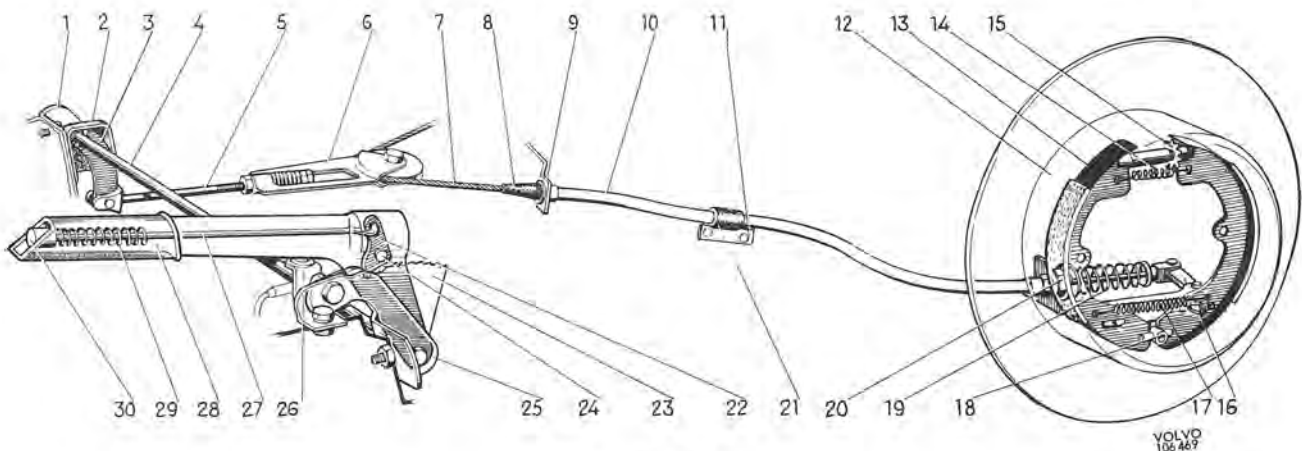

Fig. 5-76. Parking brake
The construction of the parking brake is shown in Fig. 5-76. The parking brake lever is mounted on the floor on the outside of the driving seat. The movement of the lever is transmitted via the shaft (4), lever and pull rod (5) to the pulley (6). From here the movement is transmitted through the cable (7) to the rear wheel brake units. At each rear wheel, the movements of the cable influence the lever (16), which is carried in a movable rod (17) on the brake shoes. The lower ends of the brake shoes are held pressed against the anchor bolt (18) by the lower spring. The upper ends are jointed through the adjusting devices (15) to which
4. Remove the rubber cover (8, Fig. 5-76) for the front attachment of the cable sleeve and the nut as well as the attachment for the rubber suspension ring on the frame member. Remove the cable from the other side of the attachment in the same way.
- Remove the split pin and stretch the cable so that the pull rod (5, Fig. 5-76) can be removed from the lever.
- Unscrew the button (30, Fig. 5-76) and remove the spring (29) from the parking brake lever. Remove the rivet (24) and take out the push rod (27) and the pawl (22).
- Fit the new parts in the reverse order, see Fig. 5-76. Make sure that the rivet is firmly fixed but does not obstruct the movement of the pawl. Lubricate the bushes with a thin coat of ball bearing grease. Do not forget to lock the pull rod and make sure that the rubber covers seal well.